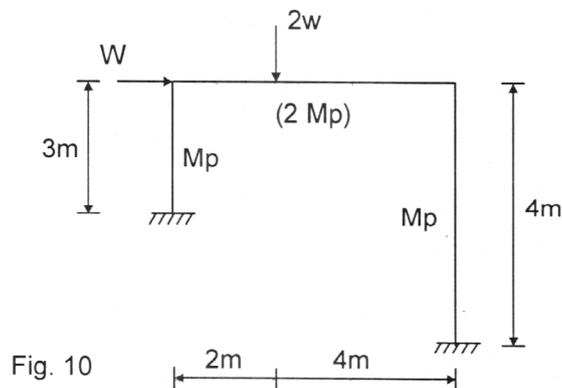

Fig. 10
10. Determine the collapse load W_c in the frame as shown in fig. 10.